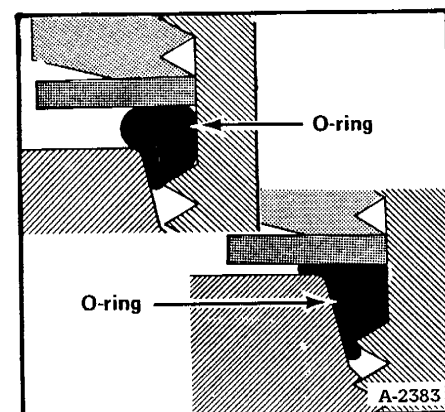

Fig. 2-6 Wrong Installation
- (4) If the fitting is not turned in far enough, the O-ring will be damaged and the fitting will leak (Fig. 2-6).